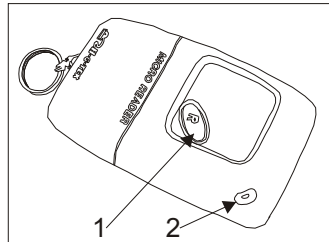
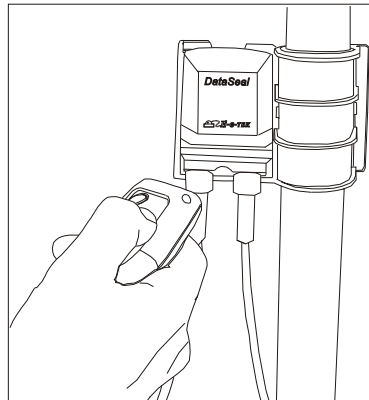
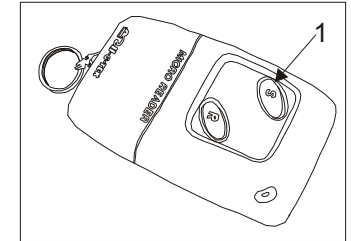

Fig. 1
Fig. 2
Fig. 3
This device is used for checking the seal status. Approach the DataSeal as shown in Fig.2 to a distance of 3-8cm and press the **R** button. (Item 1 in Fig.1)
In the event that the seal status is OK the LED (item 2 in Fig.1) will turn Green, and a corresponding “click” will sound.
To perform a “Soft Set”, approach the seal as shown in Fig.2, and press the **S** button (item 1 in Fig.3). In the event of successful “Soft Set”, the LED will turn Green and a corresponding “click” will sound.